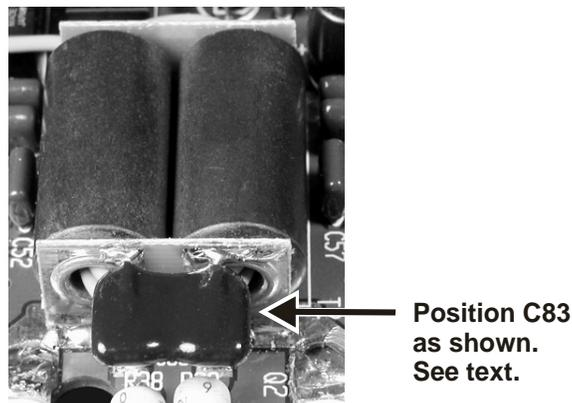

Figure 4. Installing C83.
- ☐ Place C83 in *exactly* the position shown in Figure 4, extending horizontally away from T2 over R38 and R39. The leads normally exit the body of the capacitor near the side opposite the markings, so it will be easier to solder if this side is up as shown. There are no solder pads. The leads lay flat against the tinned end plates on T2. Tin one of the end plates where the capacitor lead will attach, leaving a small bump of solder on the plate. Then hold the capacitor in place and touch the lead and plate with your iron to flow the solder onto the lead to hold the capacitor. Solder the other lead, then go back and touch up the first lead if needed.